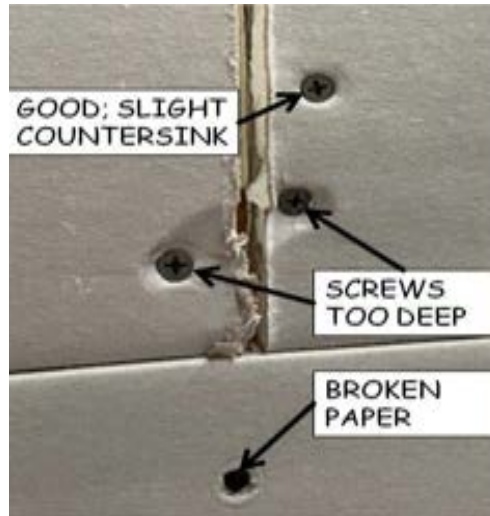

Figure 13-1. Examples of Countersunk Sheetrock Screws.
5. **Screws should be installed straight in (i.e., at a 90° angle to the sheetrock) and deep enough so the head is SLIGHTLY recessed (countersunk) below the paper surface of the sheetrock (see Figure 13-1). If the outer layer of paper is torn, or the gypsum is crushed between the paper layers, the screw is too deep and the holding power of the screw is compromised. Leave the screw in place but add another screw about 2” away. Adjust the depth setting of the driver to ensure the correct depth.**